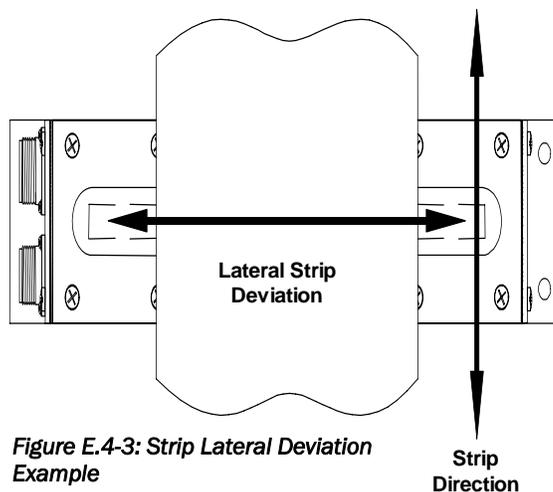
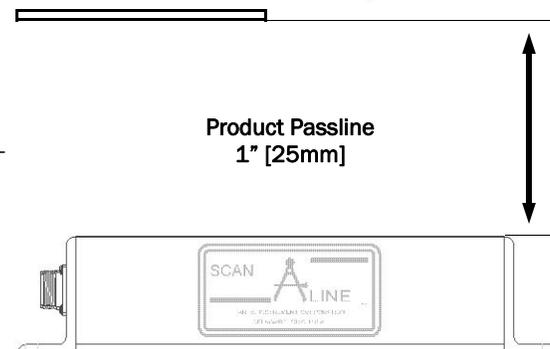

Figure E.4-3: Strip Lateral Deviation Example
Figure E.4-4: Product Passline Example
The maximum detection width range for the SHD-4000-Series sensor varies depending upon the length of the emitter. However, operational considerations, such as lateral strip deviation (Figure E.4-3) and product passline (distance from the emitter face to the strip) (Figure E.4-4) can lessen the width range. The SHD-4000-Series sensor should be placed on the line where the strip lateral position is relatively stable to prevent loss of range from lateral deviation.
The product passline spacing for the SHD-4000-Series sensor is (1) one inch [25mm] (Figure E.4-4). As the product passline increases the active inspection range of the sensor decreases, so any passline spacing higher than one (1) inch [25mm] may seriously degrade the detection abilities of the system.